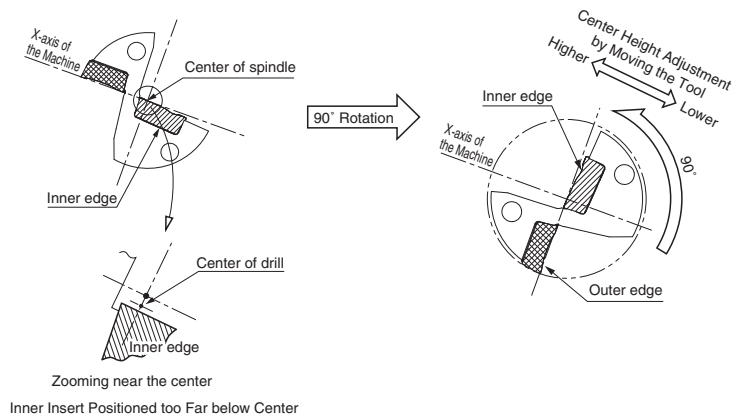

Fig. 9
- (2) If the core diameter becomes too large after the above adjustment, install the drill by rotating 90° counter-clockwise as shown in Fig. 9 (outer insert is positioned lower) and adjust the center height by moving the tool in the X-axis direction. (However, this will make it impossible to adjust the cutting diameter.)